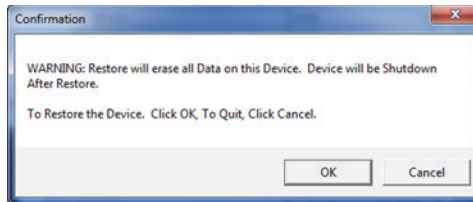

Figure 6-35 The Confirmation dialog box to confirm the restore start
5. When the **Confirmation** dialog box appears (see Figure 6-35 on page 333), click **OK** to start the restore process.